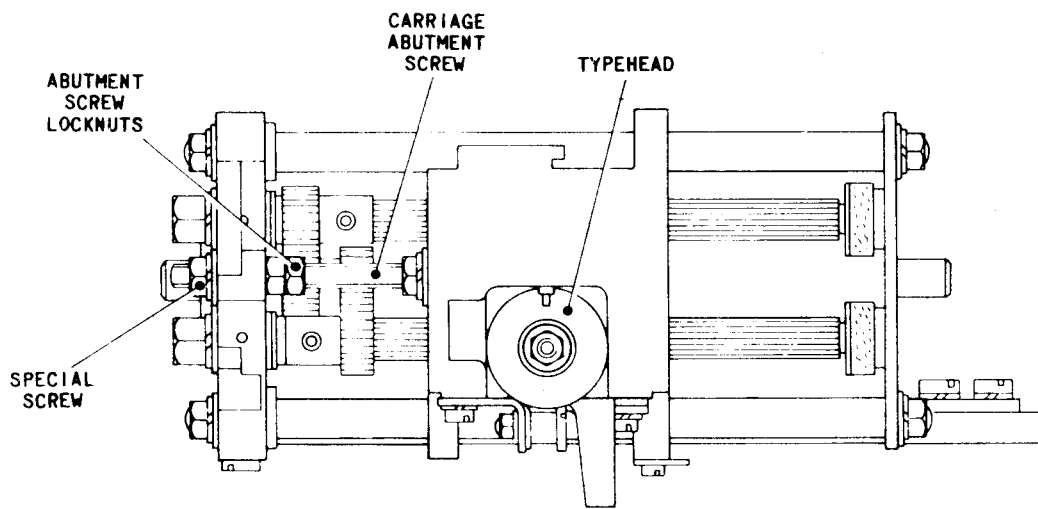

FIG. L. 18 TYPEHEAD CARRIAGE MECHANISM
- 20.2 If necessary, slacken the special screw securing the typehead carriage abutment screw, Fig.L.18, and adjust the locknuts along the abutment screw until the condition is satisfied. Tighten the locknuts and the special screw.